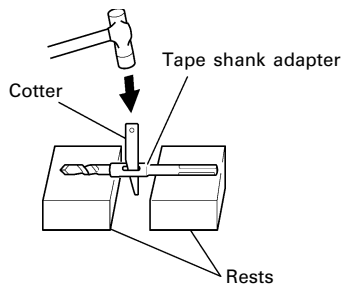

Fig. 16
- (3) Turn the switch ON, and drill a hole in prescribed depth.
- (4) To remove the drill bit (taper shank), insert the cotter into the slot of the taper shank adapter and strike the head of the cotter with a manual hammer supporting on a rests. (Fig. 16)